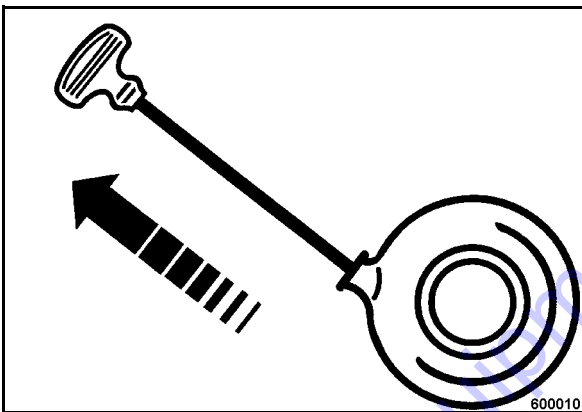

Fig. 14
- Pull the rope by the starter handle quickly and powerful as far out as possible (Fig. 14).